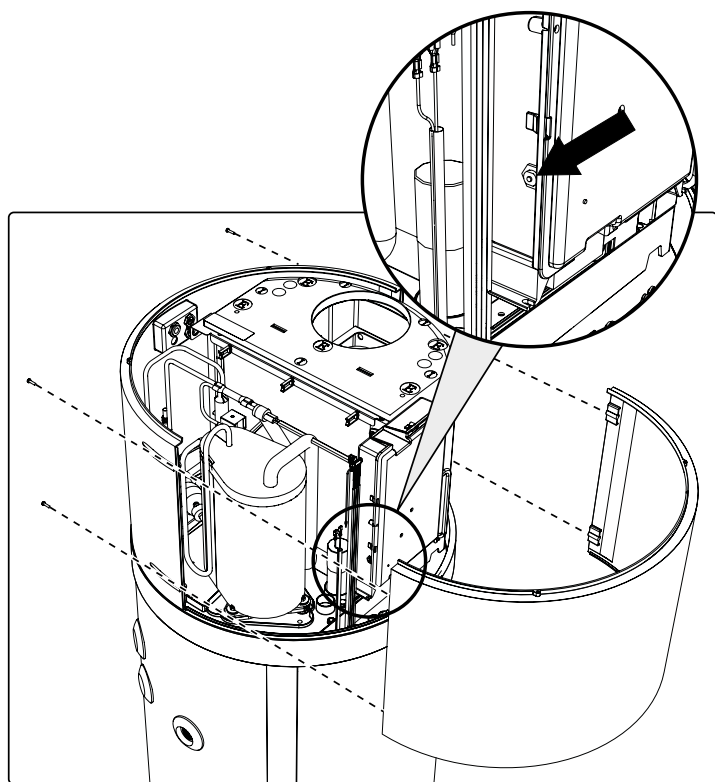

fig. 77- Front panel removal
- Remove the front panel and manually reset the tripped safety thermostat (fig. 77). In case of intervention, the central pin of the thermostat comes out by about 2 mm.